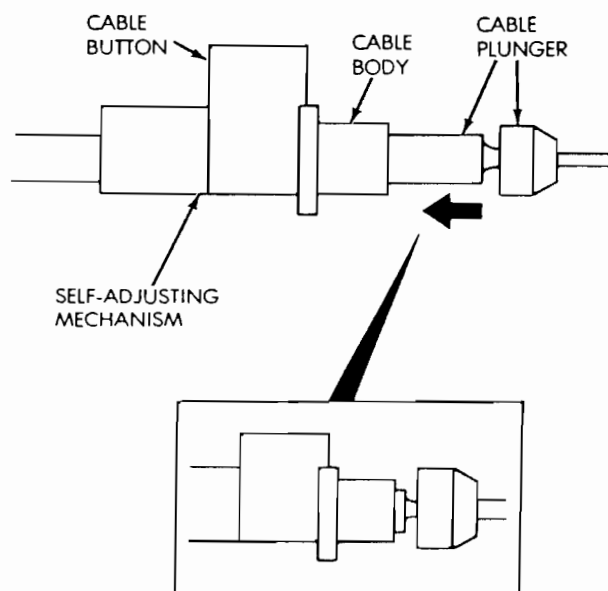

Fig. 29 Retract Throttle Cable Plunger
- (1) Turn ignition switch to Off position.
- (2) Fully retract cable plunger. Press cable button all the way down. Then push cable plunger inward (Fig. 29).